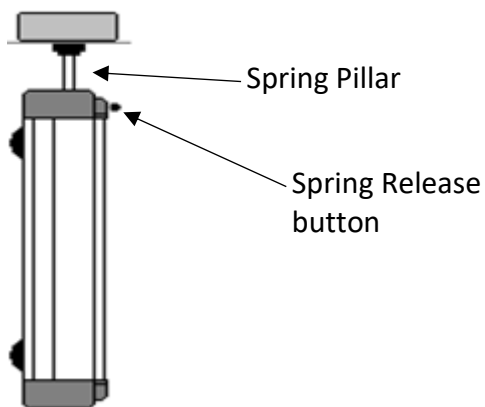

Figure 4 – Cart Standing on End
C) Take the cart and stand it on end. Make sure that the spring pillar is NOT compressed. See Figure 4. NOTE: At this point the pillar should NOT be compressed.